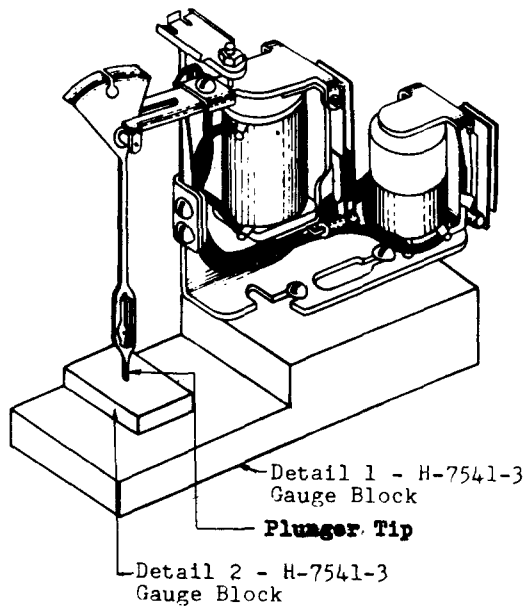

Fig. 21 — Gauging and Adjusting the Plunger Stroke — Armature Unoperated
- (3) If, with the plunger armature resting against the plunger armature backstop, the tip of the plunger when perpendicular does not just touch the upper surface on detail 2 as shown on Fig. 21, loosen the plunger armature backstop screw locknut with the No. 418A wrench and turn the plunger armature backstop screw in or out as required. Then check the plunger for plunger movement as covered in (4) through (8).
- (4) The plunger is considered as free from bind if when given an impulse with the finger, it will swing as a pendulum and come to rest in a position approximately perpendicular to the upper surface of the plunger gauge block.